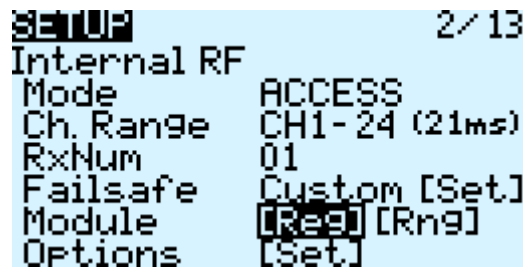

Figure 40: Internal RF
5. Using the ENT knob, scroll down to INTERNAL RF. (Figure 40)